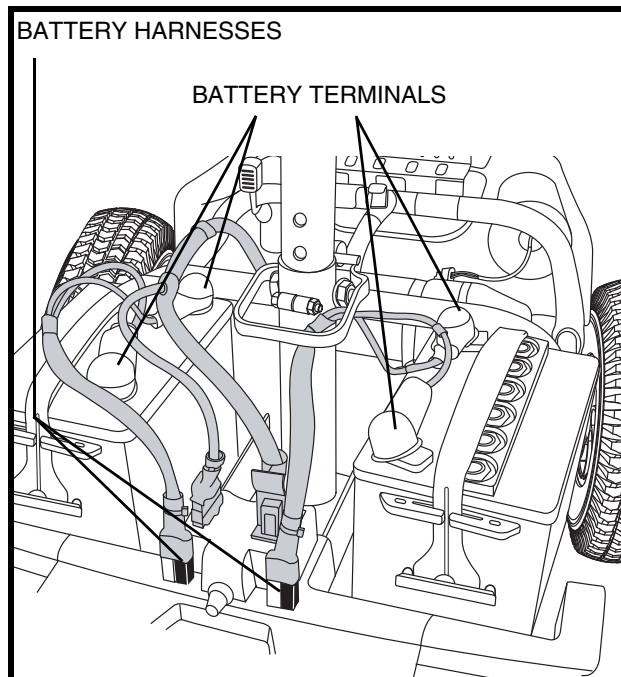

Figure 13. Battery Harnesses and Battery Cables
3. Disconnect the battery harnesses by pulling them straight up. See figure 13.
6. Place a new battery in each battery well. Face the battery terminals of each battery toward from the seat post. See figure 13.